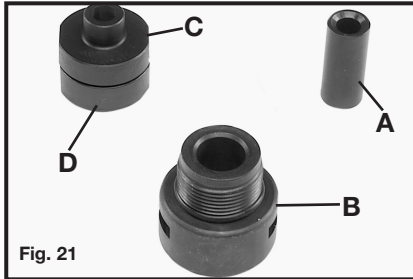
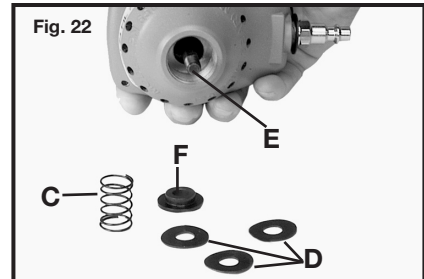

Fig. 21
Fig. 22
2. To install hammer attachments (A through D) Fig. 21 lay tool on its cap with nail guide pointing upward. Loosen and remove the magnetic nail guide and bushing (Fig. 15) using the 24mm open end wrench supplied. Remove the spring (C) Fig. 22, driver guide (F), three wave washers (D), magnetic driver guide and bushing from the driver blade (E) and place them in the carrying case for safe storage.